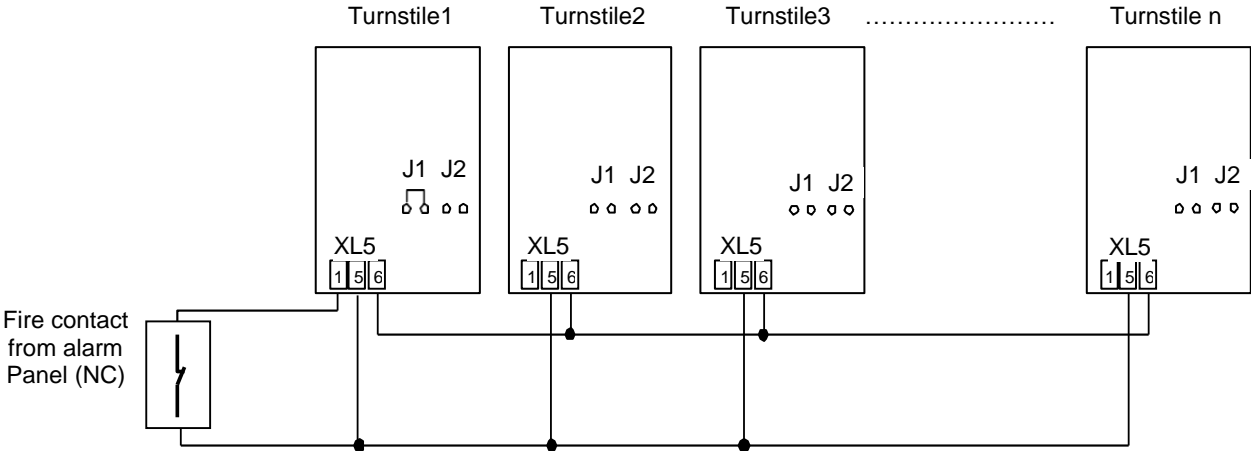

Figure 5.7 Alarm cable connection diagram
Normally closed (NC) contact is required from the alarm panel in the following connection. As shown in the diagram, the J1 jumper is installed on the control board in the first turnstile with alarm cable, while it is not installed on other turnstiles. If installed, it must be definitely removed. (Figure 5.7)